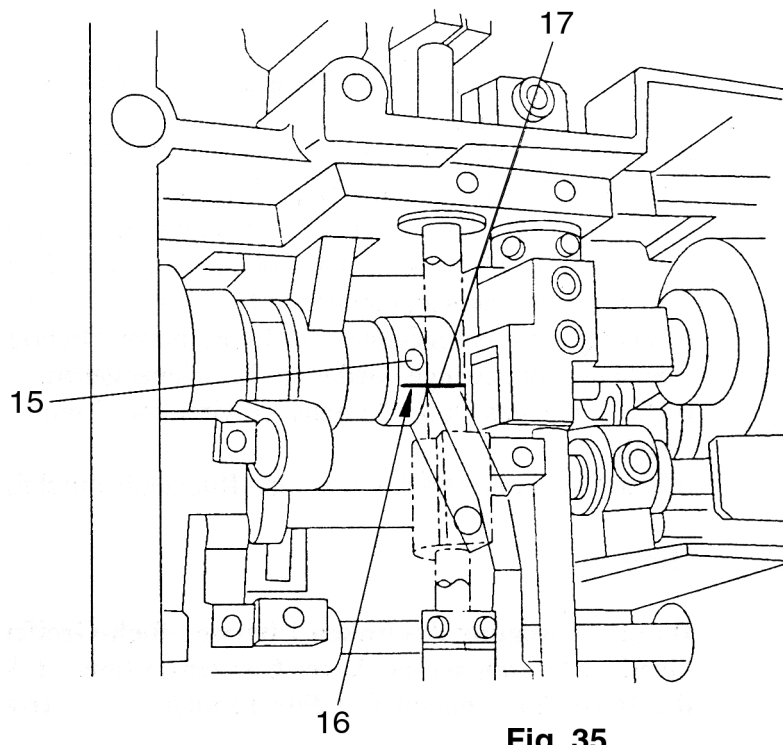

Fig. 35
- Slightly loosen the screws 15 on the drive eccentric (fig. 35).